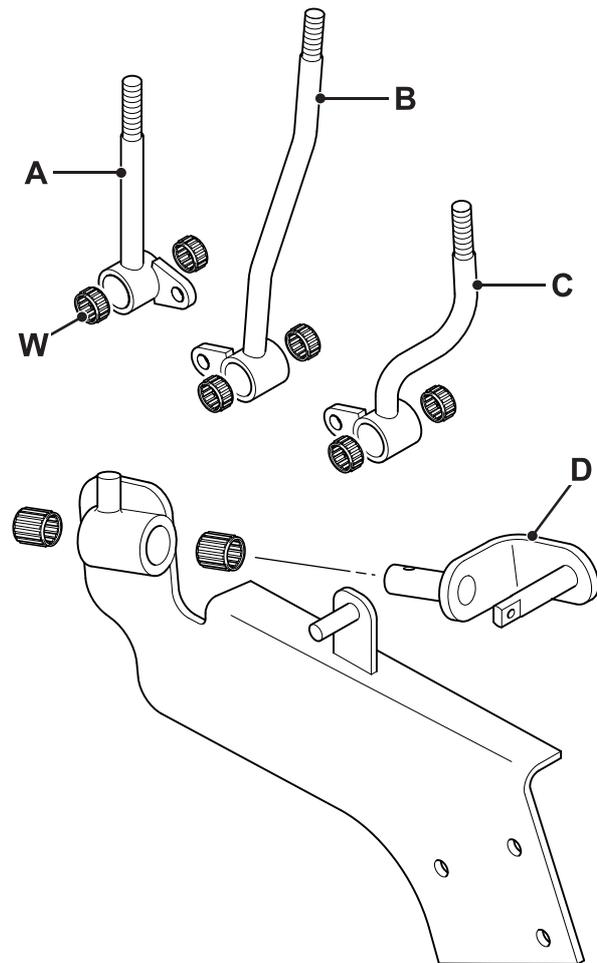

Fig 5.
- Do a check of the needle bearings (W). → Fig 5. \(□ D-6\). Replace worn or damaged bearings.
- Apply some grease to the needle bearings (W).